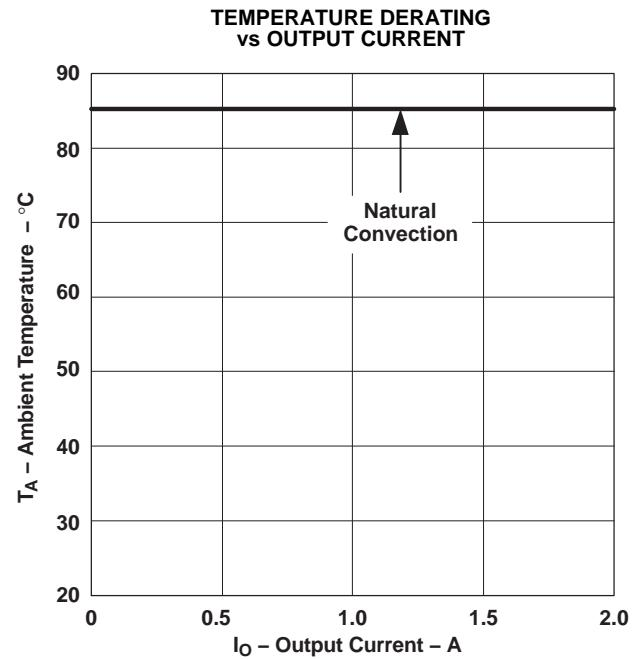

Figure 8.
(4) The temperature derating curves represent operating conditions at which internal components are at or below manufacturer's maximum rated operating temperature. Derating limits apply to modules soldered directly to a 100-mm × 100-mm, double-sided PCB with 2 oz. copper. For surface mount packages, multiple vias (plated through holes) are required to add thermal paths around the power pins. Please refer to the mechanical specification for more information. Applies to Figure 8.